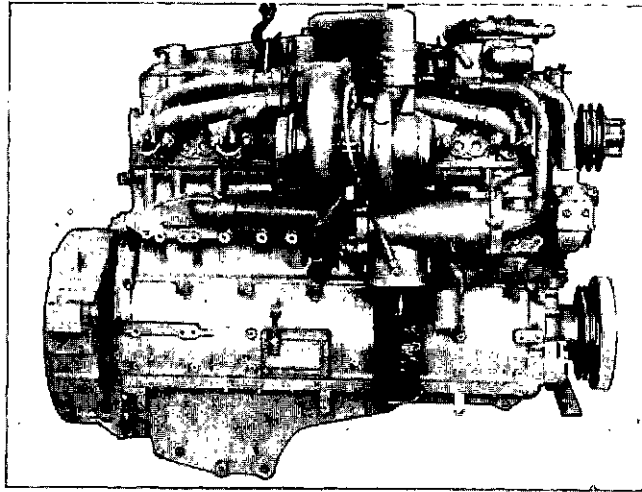

Fig. 0-3. Drain The Coolant From The Engine.
3. Drain the cooling fluid from the cylinder block (Fig. 0-3) and all the components on the engine.